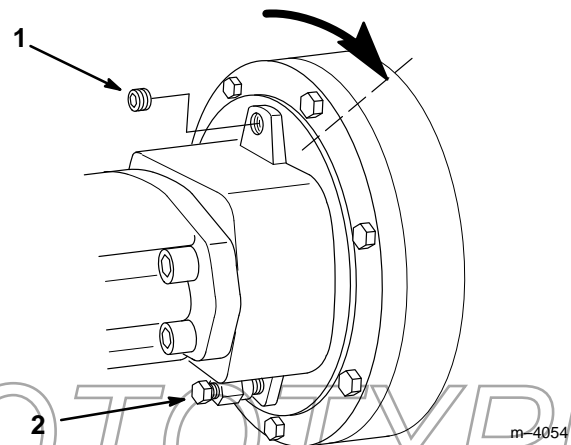

Figure 11
2. Rotate the drive head so that the oil drain plug is located on top and the breather plug is on the bottom (Fig. 11).
3. Remove the oil drain plug (Fig. 11)
4. Rotate the auger drive head so that the drain opening is at the 2 o'clock position (Fig 11). Oil should just begin to come out of the opening.
1. Support the drive head over an oil pan so that the oil drain plug (Fig. 11) is on the bottom of the drive head, facing the oil pan.